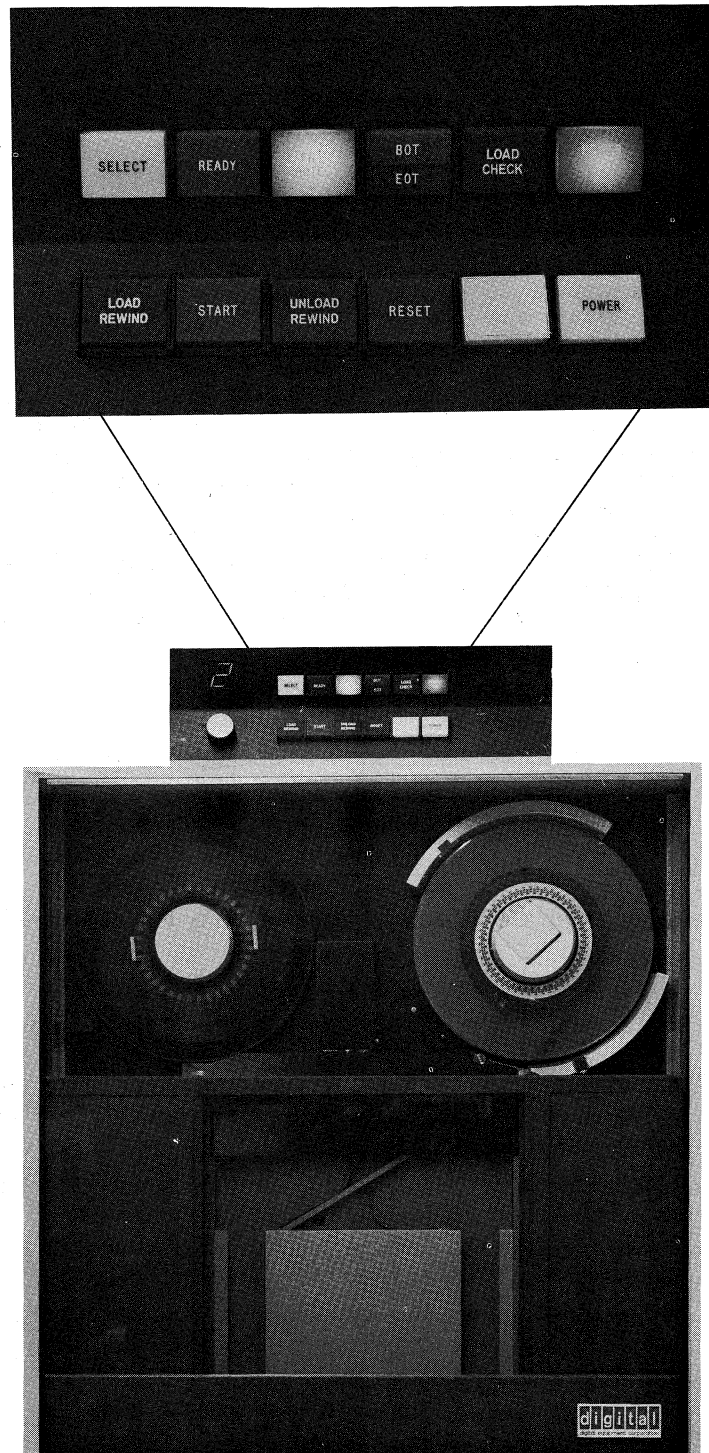

Figure 7-11 TU40 Series Magnetic Tape Drive
7.4.1.2 TU40 and TU41 Drives (Refer to Figure 7-11)